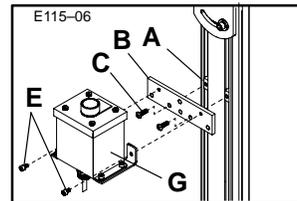

Figure 6: Jog Vertical Mounting to Aluminum Support Stand Leg
- b. Attach the Pushbutton Box assembly to the Leg channel in the manner shown in Figure 6. Attach the Pushbutton Box assembly with Mounting Brackets (in the same way it was packaged, when shipped) to the two Single Drop-in T-bars, using the M6 x 16 mm Button Head Cap Screws. Tighten Screws with 4 mm Hex Key Wrench provided.